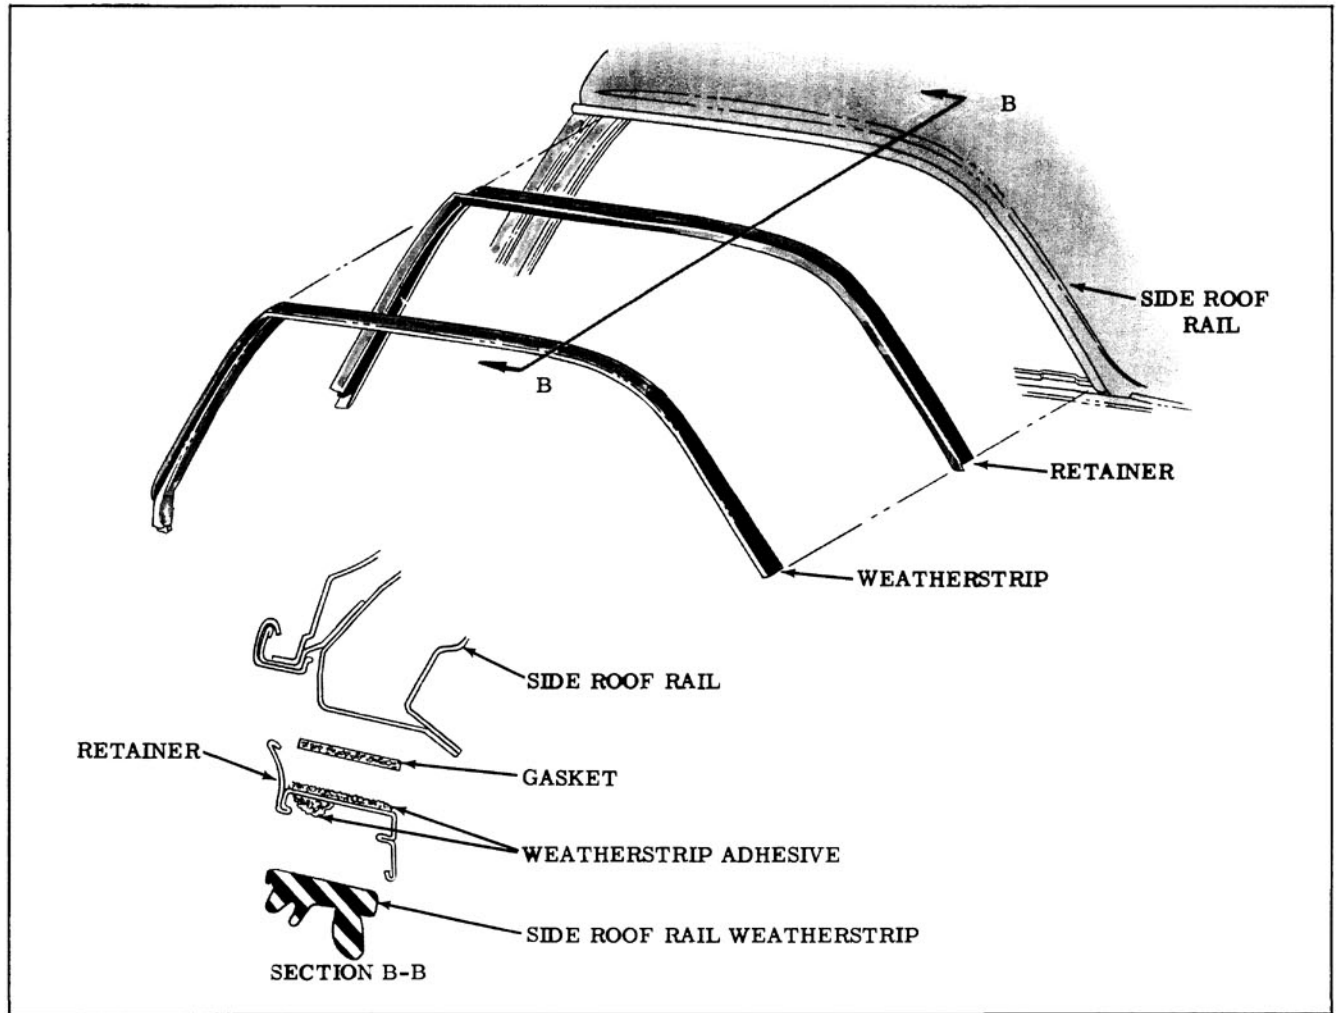

Fig. 16-74 Side Roof Rail Weatherstrip (47 Style)
roof rail sealing gasket (Fig. 16-74) is not installed in production, but is recommended for service sealing. This gasket can be cut to size from existing stock.
2. Apply a continuous bead (approximately 3/16" diameter) of weatherstrip adhesive along entire outboard surface of side roof rail weatherstrip retainer. (Section B-B, Fig. 16-74)